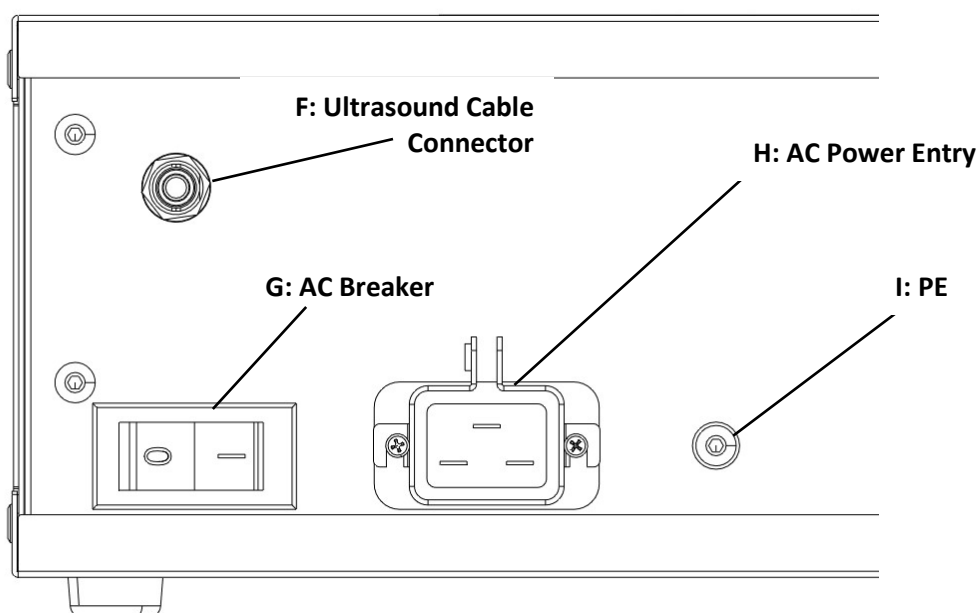

Figure 5. Rear view of the generator.
1. Attach the ultrasound cable between the transducer and the ultrasound output connector (**F** in Figure 5).
2. Connect the supplied AC power cord to the generator's IEC power inlet connector (**H** in Figure 5) and plug the other end into an approved AC outlet.
Run the supplied green 14-gauge wire from the ground stud connection (**I** in Figure 5) to the nearest grounded metal pipe or equivalent earth ground and secure it with a ground clamp.
The Ultrasound Input Connector is a high-voltage SHV-BNC connector, which meets the demands for heavy duty & heavy power applications under rugged environmental conditions. It provides superior shielding of electrical noise and mates with a corresponding connector on a fully shielded coaxial ultrasound cable that on the other side is attached to the SHV-BNC-type Ultrasound Output Connector at the generator (**F** in Figure 5).